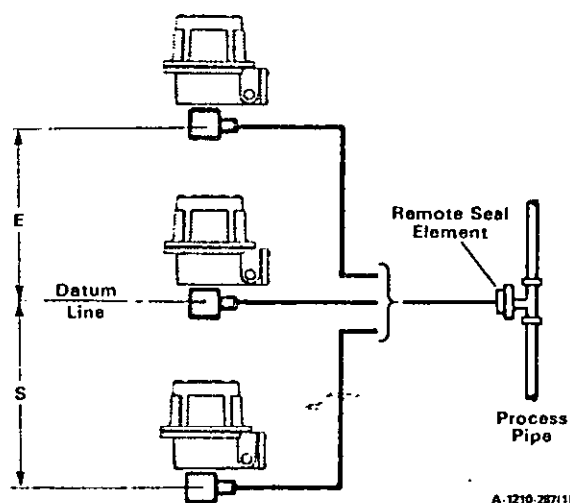

Figure 8. Pressure Service Installation
Installations for gage pressure measurement are shown in Figures 8 and 9. The seal element can be connected to a process pipe as shown, or to any process vessel.
Recommended installations for pressure service are shown in Figure 8. If the transmitter is located above the elevation of the seal element, dimension E is limited depending upon the tube system filling medium. If the filling medium is mercury, dimension E must not exceed 30 inches (762 mm). For all other filling mediums, dimension E must not exceed 30 feet (9.14 m). Connect the element to the side or top of the pipe to avoid collection of sediment on the process diaphragm.
When the transmitter datum line, Figure 8, is at the same elevation as the seal element, the lower range value and upper range value are equal to the minimum and maximum process pressures, respectively.
U.S. Units: In the pressure service installation shown in Figure 8, assume that the process pressure varies from 150 to 350 psig, and the tube system filling medium is Silicone DC-200. The required transmitter span is 200 psi. The specific gravity of the liquid fill is 0.92, Table 9.
SI Units: In the pressure service installation shown in Figure 8, assume that the process pressure varies from 1000 kPa to 2400 kPa, and the tube system filling medium is Silicone DC-200. The required transmitter span is 1400 kPa. The specific gravity of the liquid fill is 0.92, Table 9.